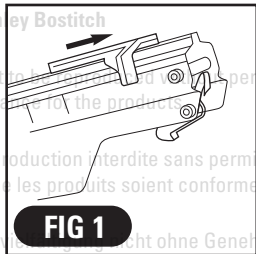

FIG 1
1. Open the magazine: Pull pusher back to engage latch. (Fig 1)